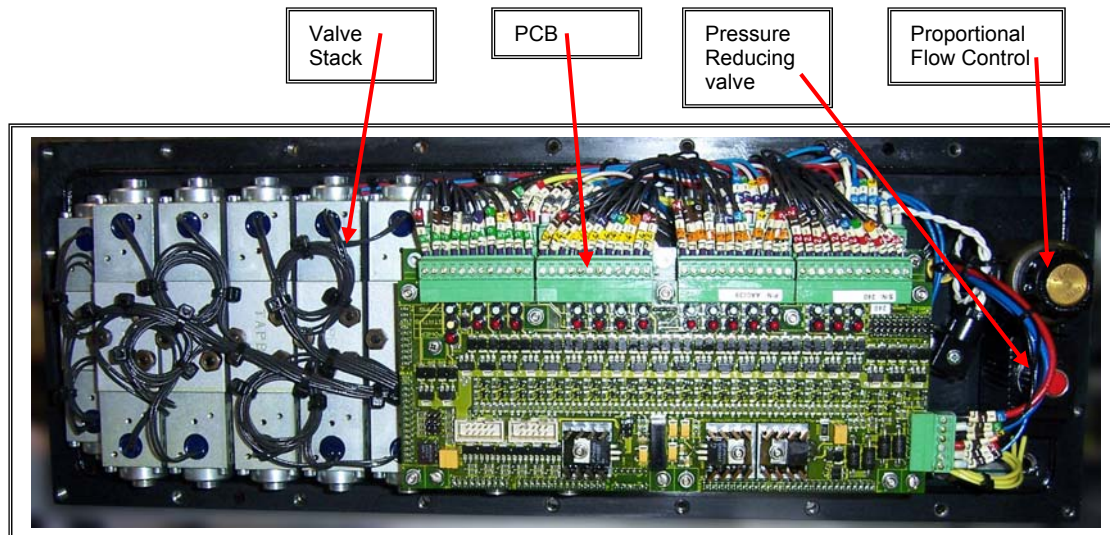

Figure 3 - Valve Pack with Cover Removed
2. Clean the quick release coupling on the compensator fill-point (see Figure 3).